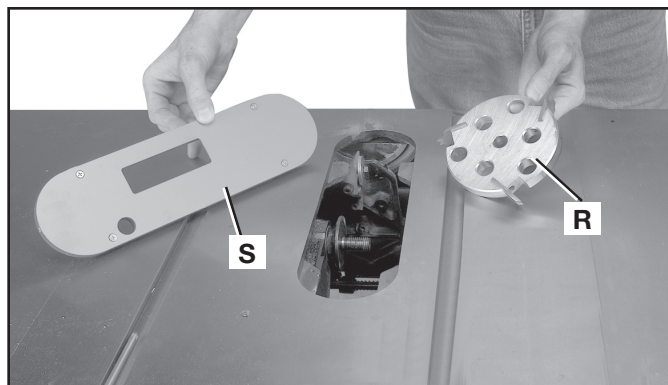

FIG. 70
⚠ WARNING: Never use a molding cutterhead (R) Fig. 70 in a bevel position. Always use the proper molding cutterhead throat plate (S).
1. You can easily attach a molding cutterhead (R) Fig. 70 to the saw arbor. Also, you must use the accessory molding cutterhead throat plate (S) in place of the standard throat plate. Be sure the throat plate is level to the table before you proceed.